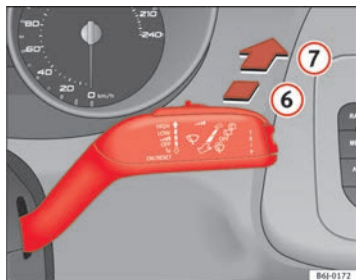

Fig. 62 Windscreen wiper and windscreen wash lever: rear window wiper
- Press the lever forwards to position **6** ⇒ fig. 62. The wiper will wipe the window approximately every 6 seconds.
- Press the lever fully forwards to position **7** ⇒ fig. 62. The rear wiper and washer operate at the same time. The windscreen wash system will function as long as you hold the lever in this position.